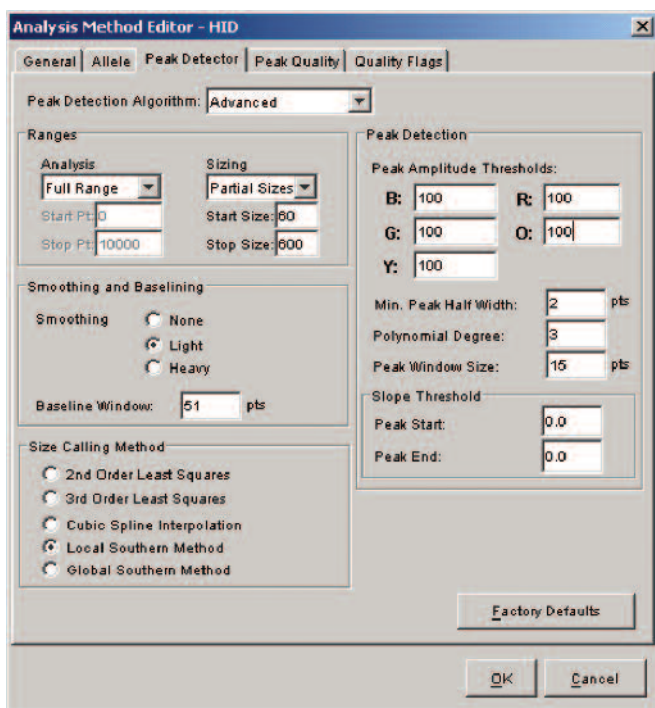

Figure 6. The Peak Detector tab.
10. Select the Peak Detector tab. We recommend the settings shown in Figure 6.